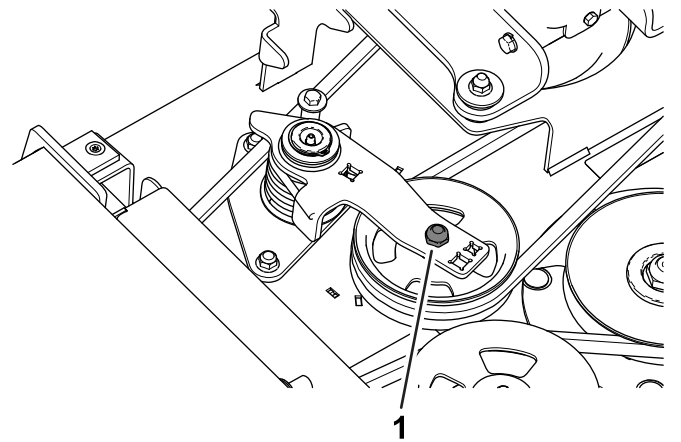

Figure 28
3. Using a torque wrench or similar tool, move the idler pulley (Figure 28) away from the drive belt to release the belt tension and allow the belt to be slipped off the gearbox pulley.